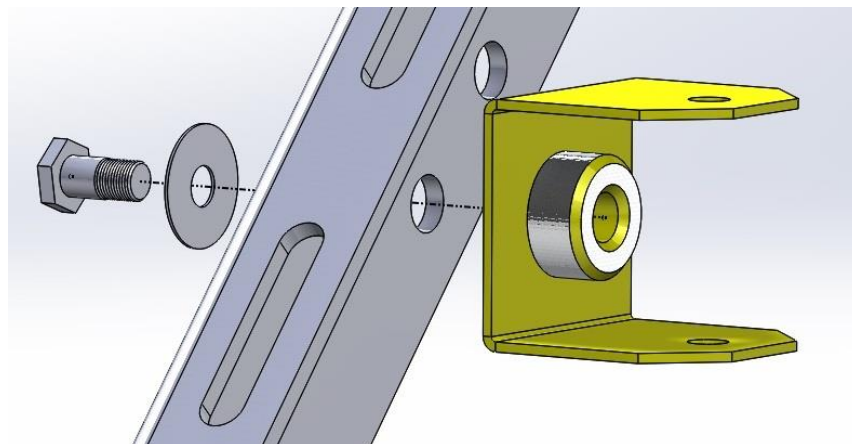

Figure 11. Exploded view of C-bracket installation inside of mounting rail
11. Attach the C-brackets to the inside face of the mounting rails using a 1/4-20 x 3/4" hex bolt and washer through one of the center holes as shown in Figure 11. Tighten the bolt securely so that the C-bracket flanges are level and with the flanges of the lower bucket bracket.